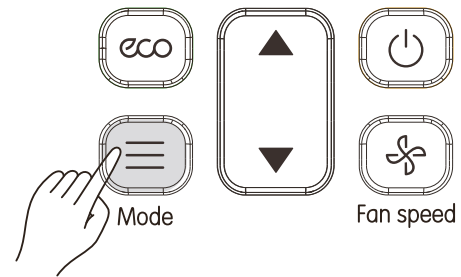

fig. 12
1) Press (see "fig. 12"). Display screen shows the operating mode ;